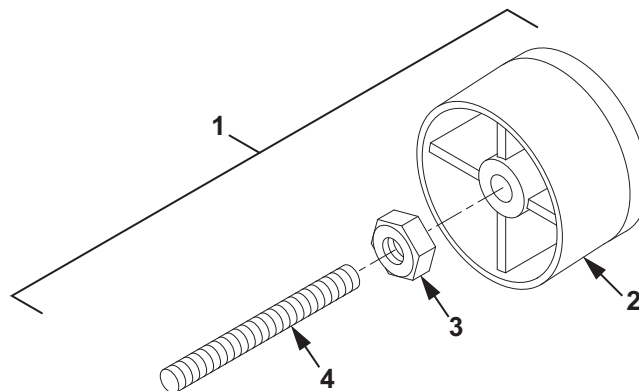

Figure 3. Lapping Jig Assembly.
8. Assemble lapping jig (Figure 3, Item 1).
9. Install a 10-24 UNC set screw (Figure 3, Item 4) (threaded rod may be used) into outer piston (Figure 3, Item 2).
10. Install hex nut (Figure 3, Item 3) onto set screw (Figure 3, Item 4). Tighten hex nut (Figure 3, Item 3).
11. Insert lapping jig (Figure 3, Item 1) into a variable speed hand drill.